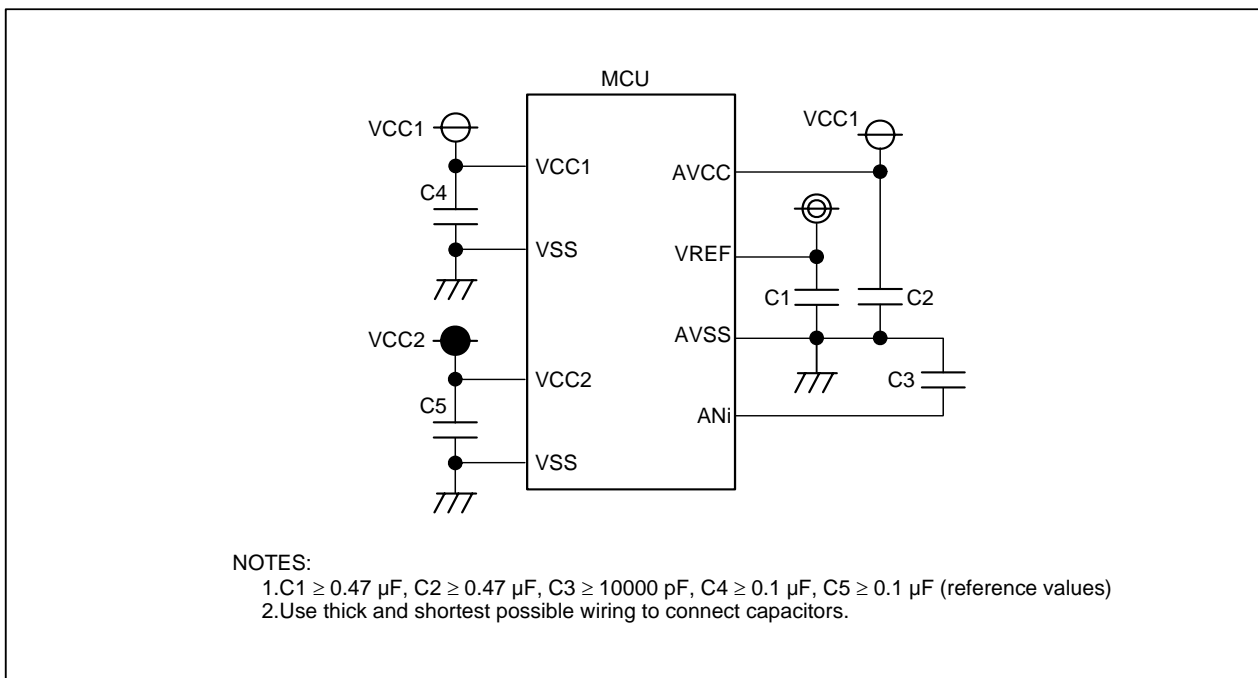

Figure 24.4 Individual Pin Handling
- To prevent latch-up and malfunction due to noise and also to minimize a conversion error, insert a capacitor between the AVSS pin and each of the following pins: the AVCC pin, VREF pin, or analog input pin ANi_j (i = none, 15; j = 0 to 7). Insert a capacitor between the VCC pin and the VSS pin as well. Figure 24.4 shows an example of individual pin handling.